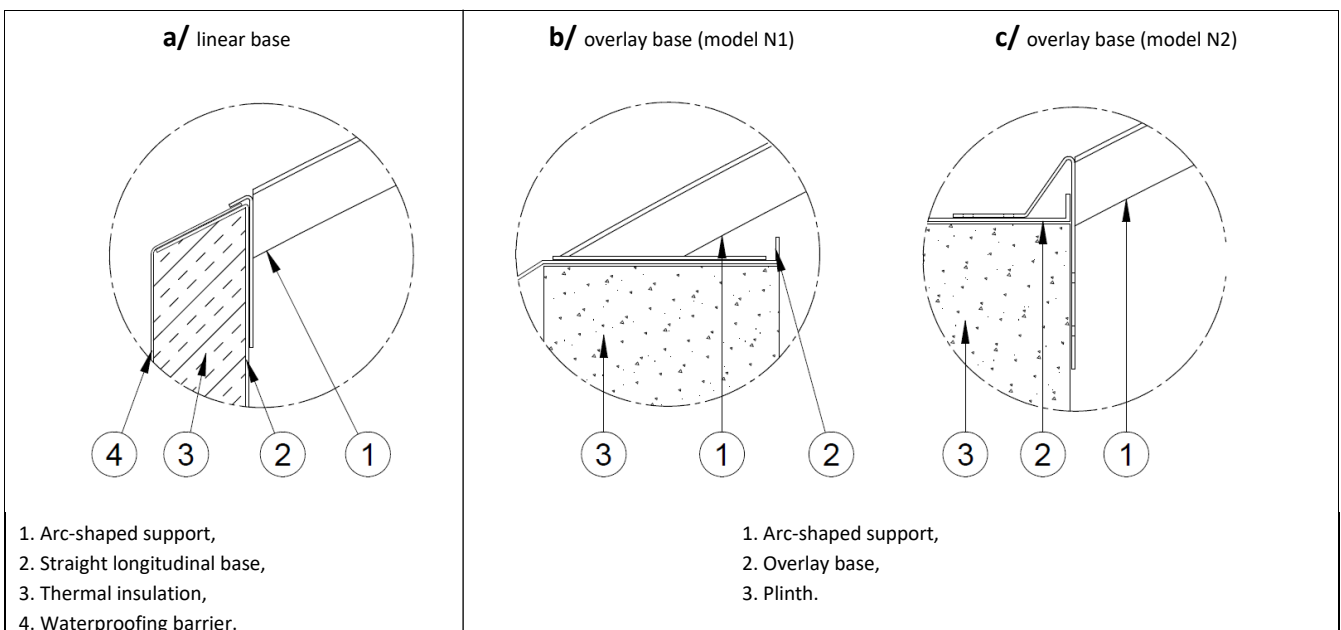

Figure 29 Installation of arc supports
4. If the rooflight is equipped with integrated smoke vents, steel arch-shaped supports should be mounted to support the opening mechanisms of single- or double-leaf vents. Install the arc-shaped supports in such a way that the brackets with the holes are on the hinge side of the single-leaf vent (in the case of a double-leaf damper it is irrelevant). Mount the supports to the rooflight base (Figure 29 Installation of arc supports) using self-drilling sheet metal screws $\varnothing 6.3 \times 22$ mm. For other bases, use fasteners appropriate for the joined materials (e.g. self-drilling screws as before, concrete screws, wood screws).